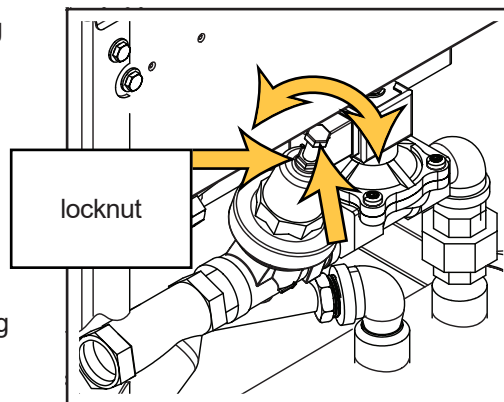

Fig. 18 - PRV Adjusting Screw
1. To increase pressure, loosen locknut then tighten the PRV adjusting screw; to decrease pressure, loosen the PRV adjusting screw (see Fig. 18).